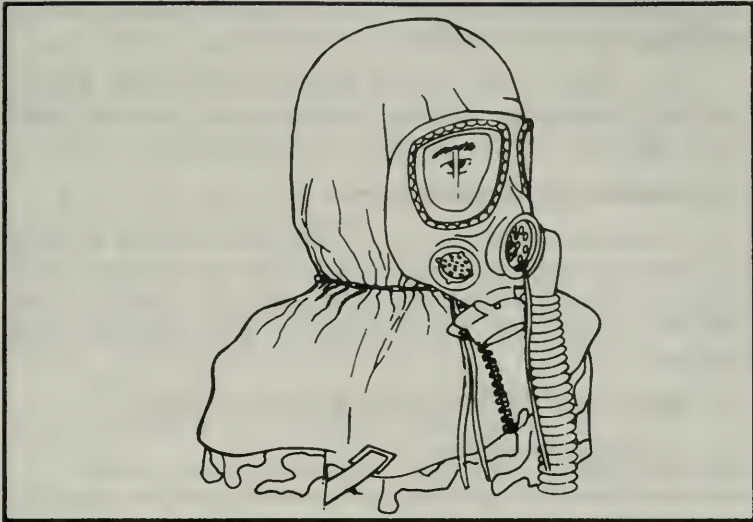

Figure 314. Hood completely fastened.
q. Fasten and adjust the underarm straps (Figure 314).